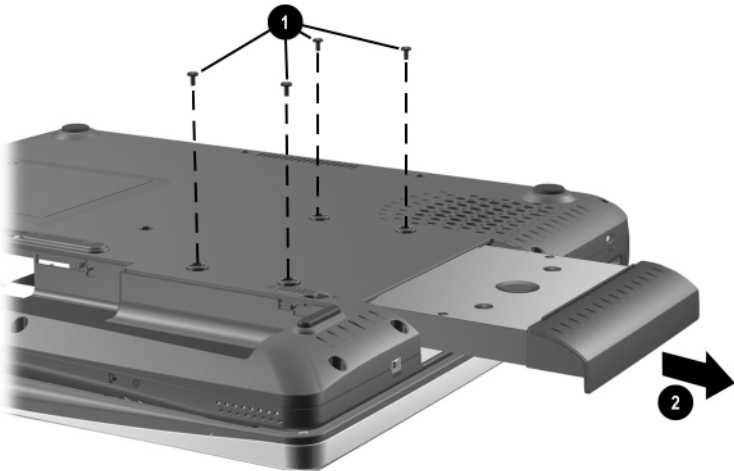

Figure 5-4. Removing the Hard Drive Assembly
- b. Remove the four TM2.5 × 7.0 screws ❶ that secure the hard drive assembly to the notebook (Figure 5-4).
- c. Slide the hard drive assembly forward ❷ and remove it from the hard drive bay.